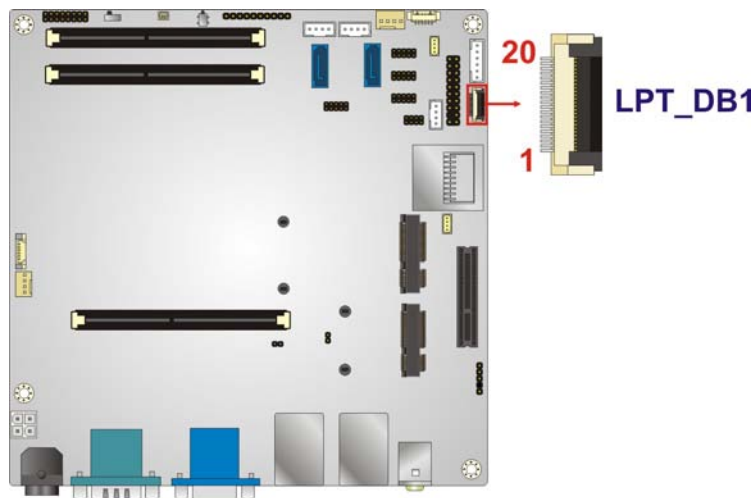

Figure 3-9: EC Debug Connector Location
- CN Location: See **Figure 3-9**